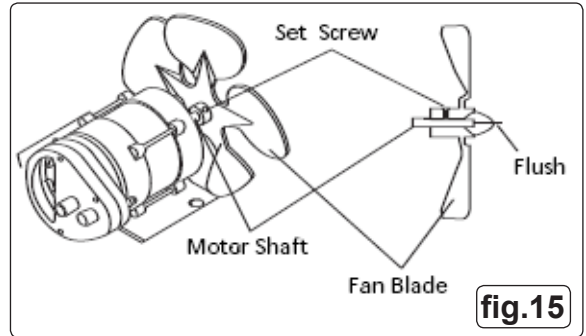

fig.15
6.8 Fan. Fan blades (fig.15) should be cleaned at least once per heating season, depending on environment. Remove the outer case top shell (fig.3) and clean the fan blades with a damp cloth. Dry fan thoroughly using compressed air.